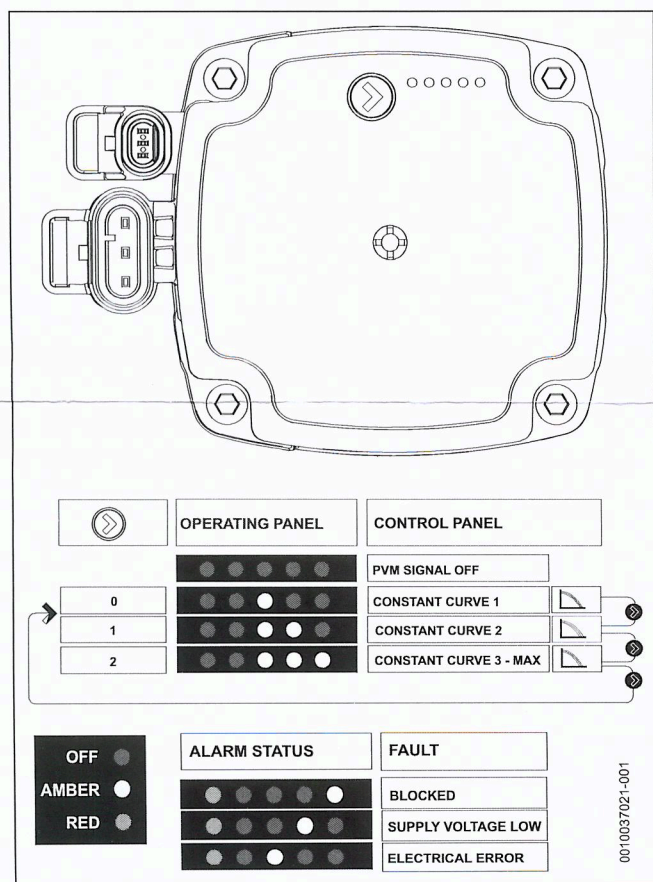

Fig. 4
- ▶ the amber lights indicate the type of pump fault, refer to figure 4: